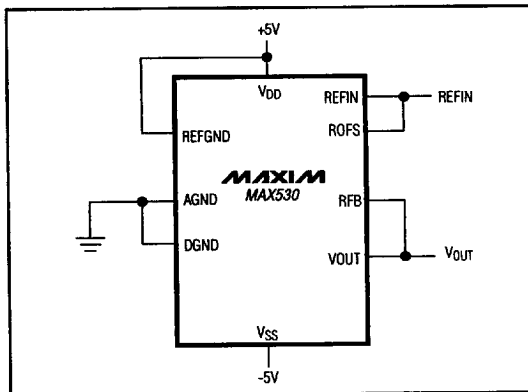

Figure 12. Four-Quadrant Multiplying Circuit
The MAX530 can be used as a four-quadrant multiplier by connecting ROFS to REFIN, using (1) an offset dual or two's-complement digital code, (2) bipolar power supplies, and (3) a bipolar analog input at REFIN within the range  $V_{SS} + 2V$  to  $V_{DD} - 2V$ , as shown in Figure 12.